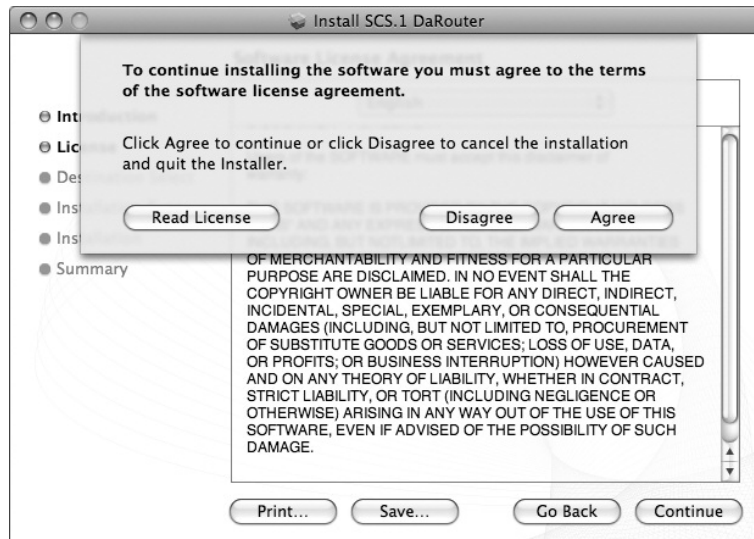

Figure 4.19
- Read the license agreement and click **Continue**. In the next dialog, click **Agree**. (Figure 4.19)